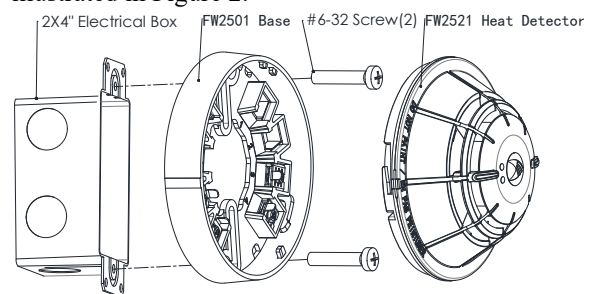
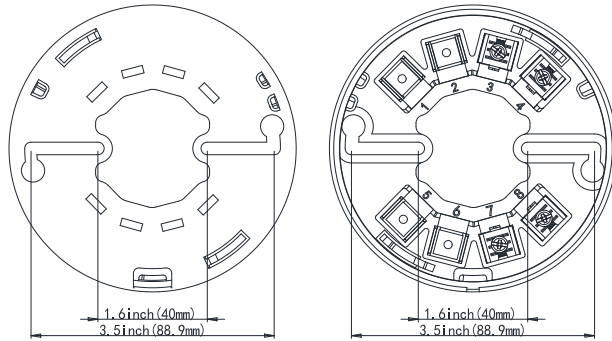

Figure 1. FW2501 Base Installation
Figure 2. Wiring Terminals and Pitch of Hole
1. Mount the FW2501 base onto a 2x4” electrical box, see Figure 1. The installation hole pitch is illustrated in Figure 2.